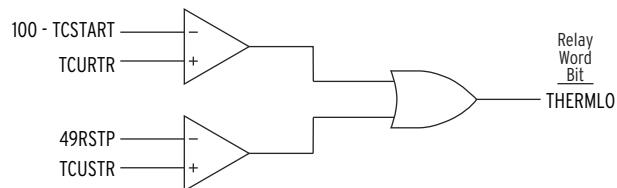

Figure 4.50 Thermal Element Lockout Logic
- **Thermal Element Lockout.** The motor thermal element % Thermal Capacity Used value is too high to permit a normal motor start without tripping. The trip signal is maintained until the % Thermal Capacity decreases to a level where a start can safely take place (see *Figure 4.50* for details).